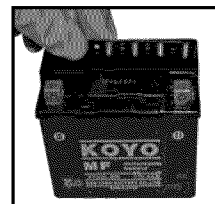

Figure 22
- After 30 minutes the battery is ready for its initial charge. Place caps loosely over battery cell holes (see figure 22)